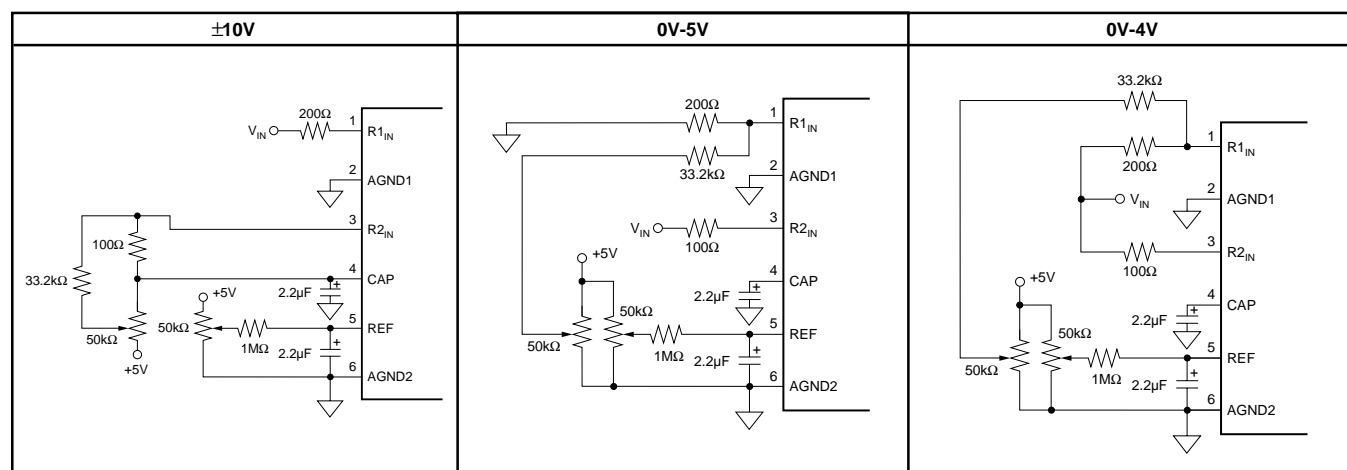
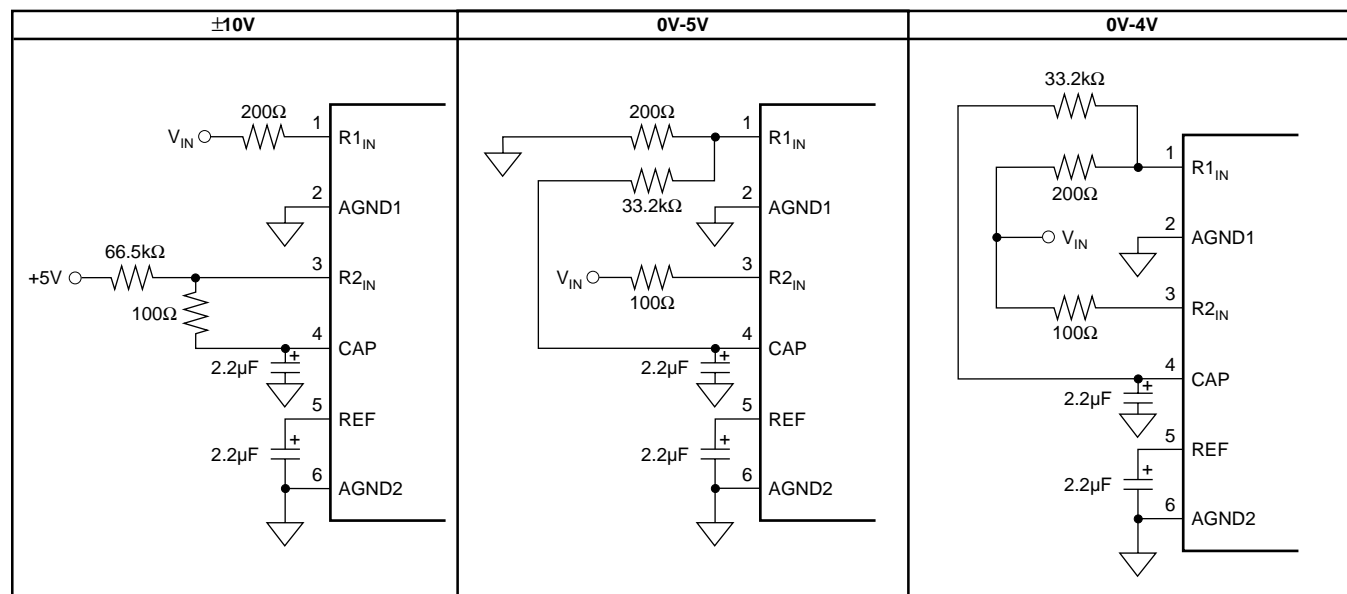
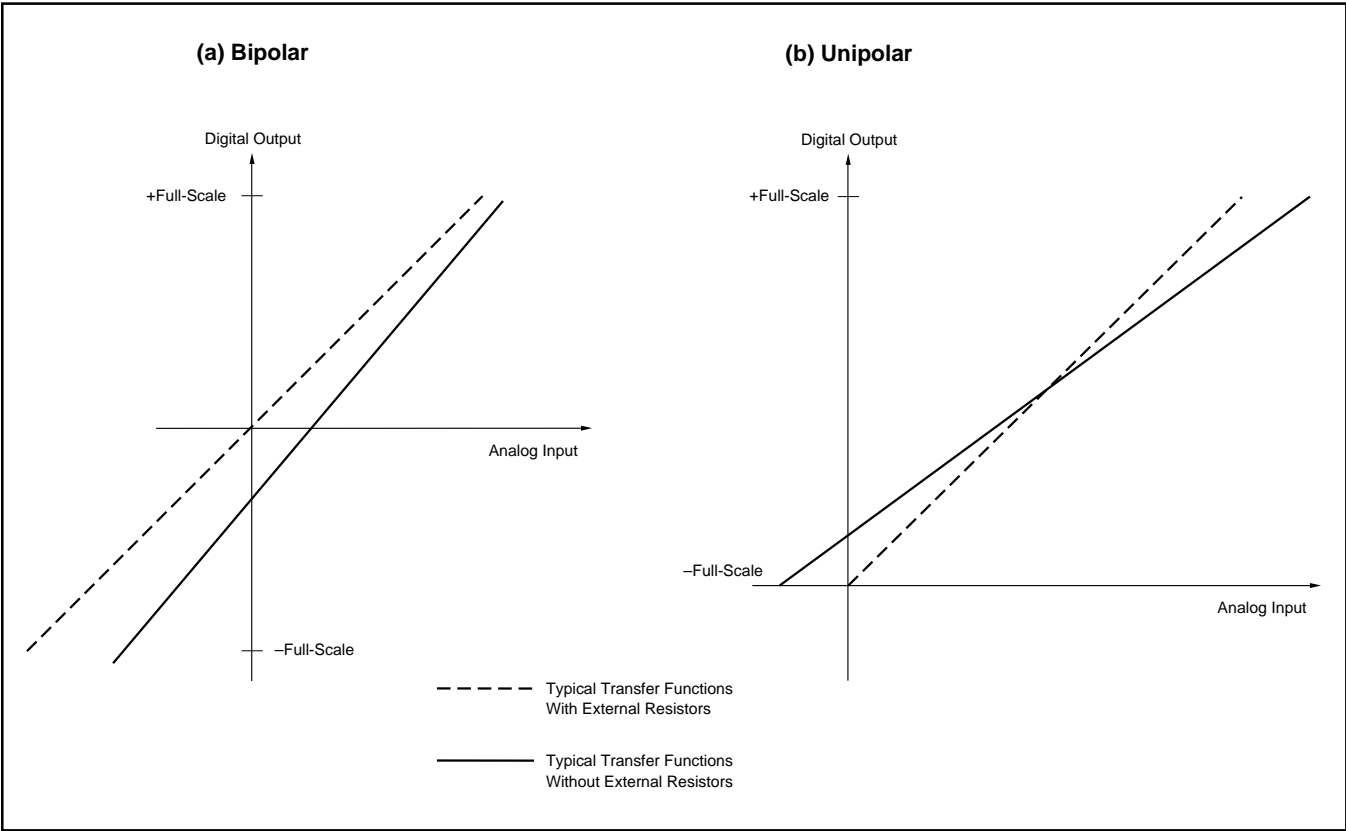

FIGURE 7a. Circuit Diagrams (With Hardware Trim).
FIGURE 7b. Circuit Diagrams (Without Hardware Trim).
FIGURE 8. Typical Transfer Functions With and Without External Resistors.
The ADS7807 offers three input ranges: standard  $\pm 10\text{V}$  and 0V-5V, and a 0V-4V range for complete, single-supply systems. See Figures 7a and 7b for the necessary circuit connections for implementing each input range and optional offset and gain adjust circuitry. Offset and full-scale error(1) specifications are tested with the fixed resistors, see Figure 7b. Adjustments for offset and gain are described in the Calibration section of this data sheet.
used for each input range (see Figure 8). The input resistor divider network provides inherent over-voltage protection to at least  $\pm 5.5\text{V}$  for  $R_{2\text{IN}}$  and  $\pm 12\text{V}$  for  $R_{1\text{IN}}$ .
To calibrate the offset and gain of the ADS7807 in hardware, install the resistors shown in Figure 7a. Table VI lists the hardware trim ranges relative to the input for each input range.
To calibrate the offset and gain in software, no external resistors are required. However, to get the data sheet specifications for offset and gain, the resistors shown in Figure 7b
TABLE VI. Offset and Gain Adjust Ranges for Hardware Calibration (see Figure 7a).
Figure 7b shows circuit connections. Note that the actual voltage dropped across the external resistors is at least two orders of magnitude lower than the voltage dropped across the internal resistor divider network. This should be consid-
The external resistors, see Figure 7b, may not be necessary in some applications. These resistors provide compensation for an internal adjustment of the offset and gain which allows calibration with a single supply. Not using the external resistors will result in offset and gain errors in addition to those listed in the electrical characteristics section. Offset refers to the equivalent voltage of the digital output when converting with the input grounded. A positive gain error occurs when the equivalent output voltage of the digital output is larger than the analog input. Refer to Table VII for nominal ranges of gain and offset errors with and without the external resistors. Refer to Figure 8 for typical shifts in the transfer functions which occur when the external resistors are removed.